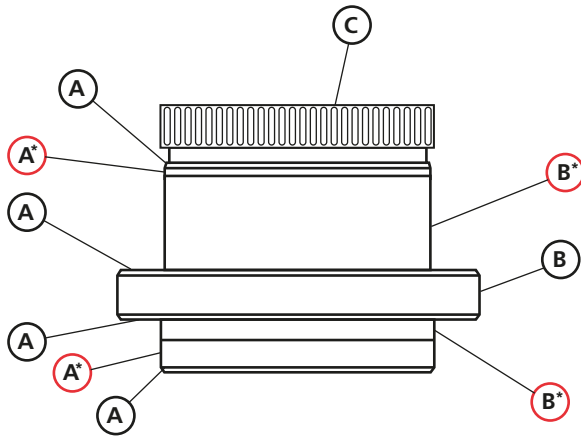
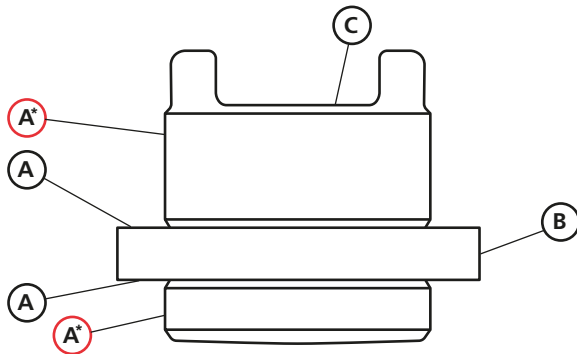

Figure 8 – Splined output sleeve, important surfaces
Figure 9 – HOB3 dog drive output sleeve, important surfaces
The output sleeve (14) can be easily removed from the gearbox by first removing the spigot ring (15) from the baseplate (16). A small force may have to be applied to the face marked 'C' in Figure 8 to assist in removing the output sleeve.
For all gearboxes, apart from HOB3, see Figure 8.
For the HOB3 gearbox, see Figure 9.
**⚠ IMPORTANT:** Before re-fitting the output sleeve after machining, check that the surfaces marked 'A' in Figure 8 and Figure 9 are not damaged. Damaged surfaces can break the gearbox seals or bearings and cause water ingress or grease leakage.
An anti-friction compound containing molybdenum disulphide, such as MI-Setral-9M, should be applied to the faces marked with an asterisk '\*' in Figure 8 and Figure 9 before inserting the output sleeve back into the gearbox. For clarification on the suitability of an anti-friction compound, please contact Rotork.
**⚠ IMPORTANT:** Before fitting the output sleeve, check that the surfaces marked 'A' in Figure 8 and Figure 9 are not damaged. Damaged surfaces can break the gearbox seals or bearings and cause water ingress or grease leakage.
An anti-friction compound containing molybdenum disulphide, such as MI-Setral-9M should be applied to the faces marked with an asterisk '\*' in Figure 8 or Figure 9 (whichever is applicable), before inserting the output sleeve back into the gearbox. For clarification on the suitability of an anti-friction compound, please contact Rotork.